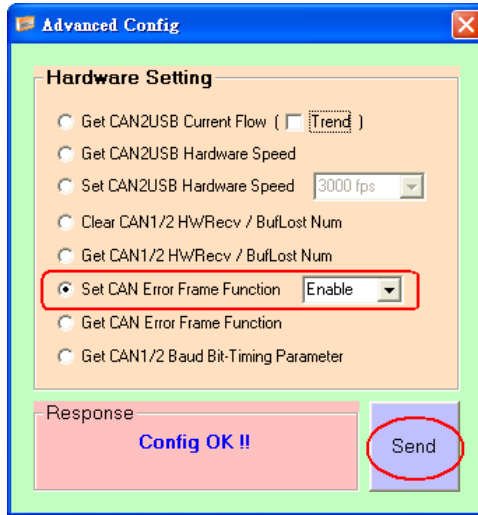

Figure 15-1 Enable “CAN Error Frame” Function
- (1) Run “I-7565-H1/H2” utility and connect to I-7565-H1/H2 module.
- (2) In ”**Advanced Config**” screen, click the ”**Set CAN Error Frame Function**” item and choose ”**Enable**” option. Then click ”**Send**” button to enable the function like Figure 15-1.